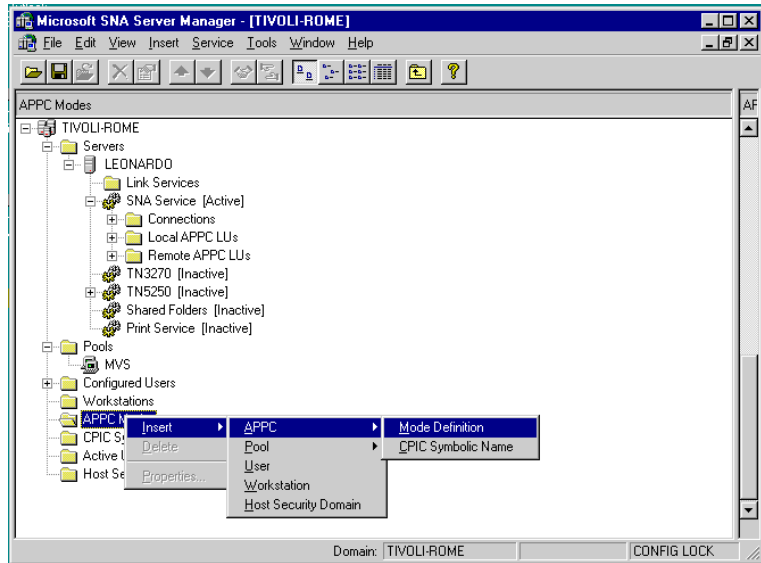

Figure 47. Selecting APPC modes
- 1 From the Microsoft SNA Server Manager window, select **APPC Modes ► Insert ► APPC ► Mode Definition**, as shown in Figure 47 on page 125.